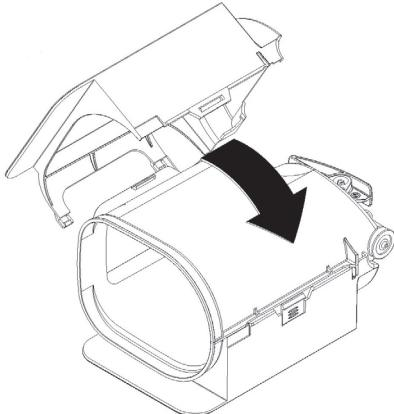

figure 16
- 2** Put the left-hand part of the recover into position and make sure that it fits into the illustrated groove. Click the two parts together. (see figure 16).